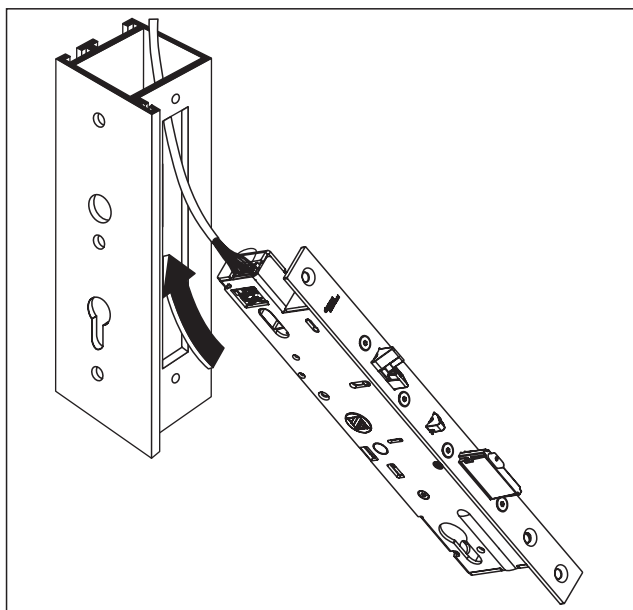

Fig. 17 Insert door lock
2. Insert the door lock into the door leaf recess (Abb. 17).